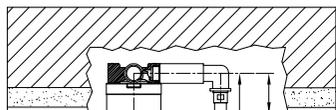

Fig.1
- 1- The thermostad mixer body must be installed so that the reference line on the protection lid will correspond to the future finished wall level; (check that protection lid is fully screwed on)(Fig.1).